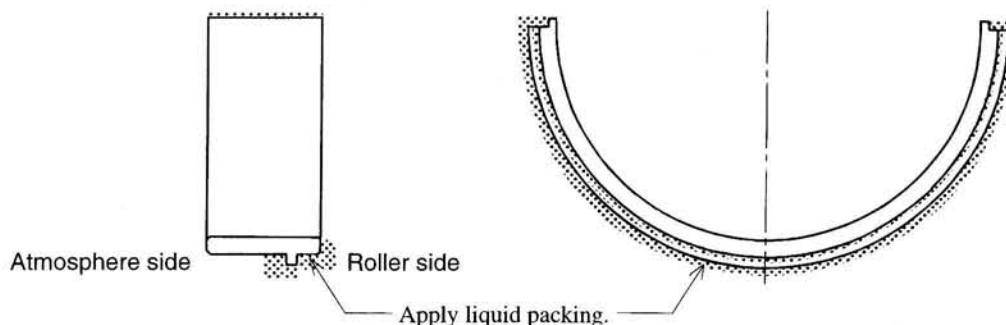

Fig. 15 Application of Liquid Packing to Lower Labyrinth Ring
- 3) In the case of equipment intended to collect used grease completely, so called 'Seal In Type', it is recommended to apply liquid packing additionally to the lower half of the labyrinth ring (see Fig. 15).